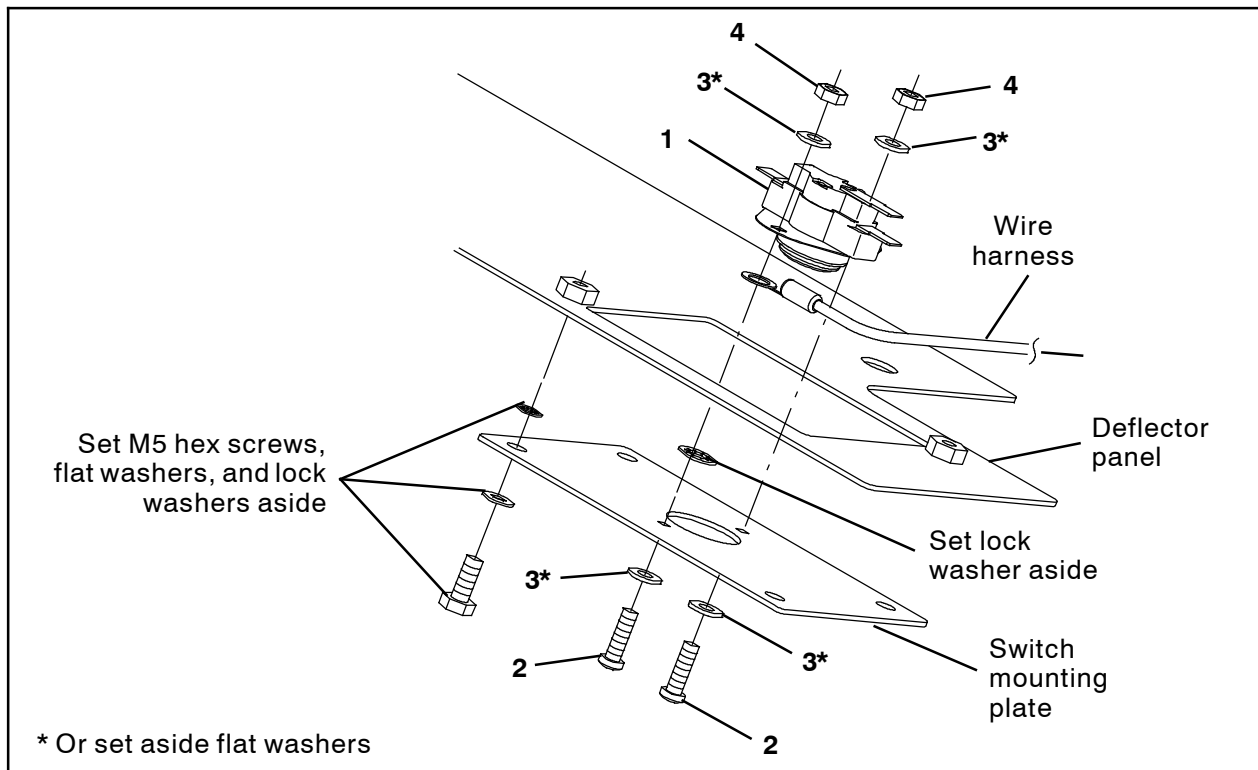
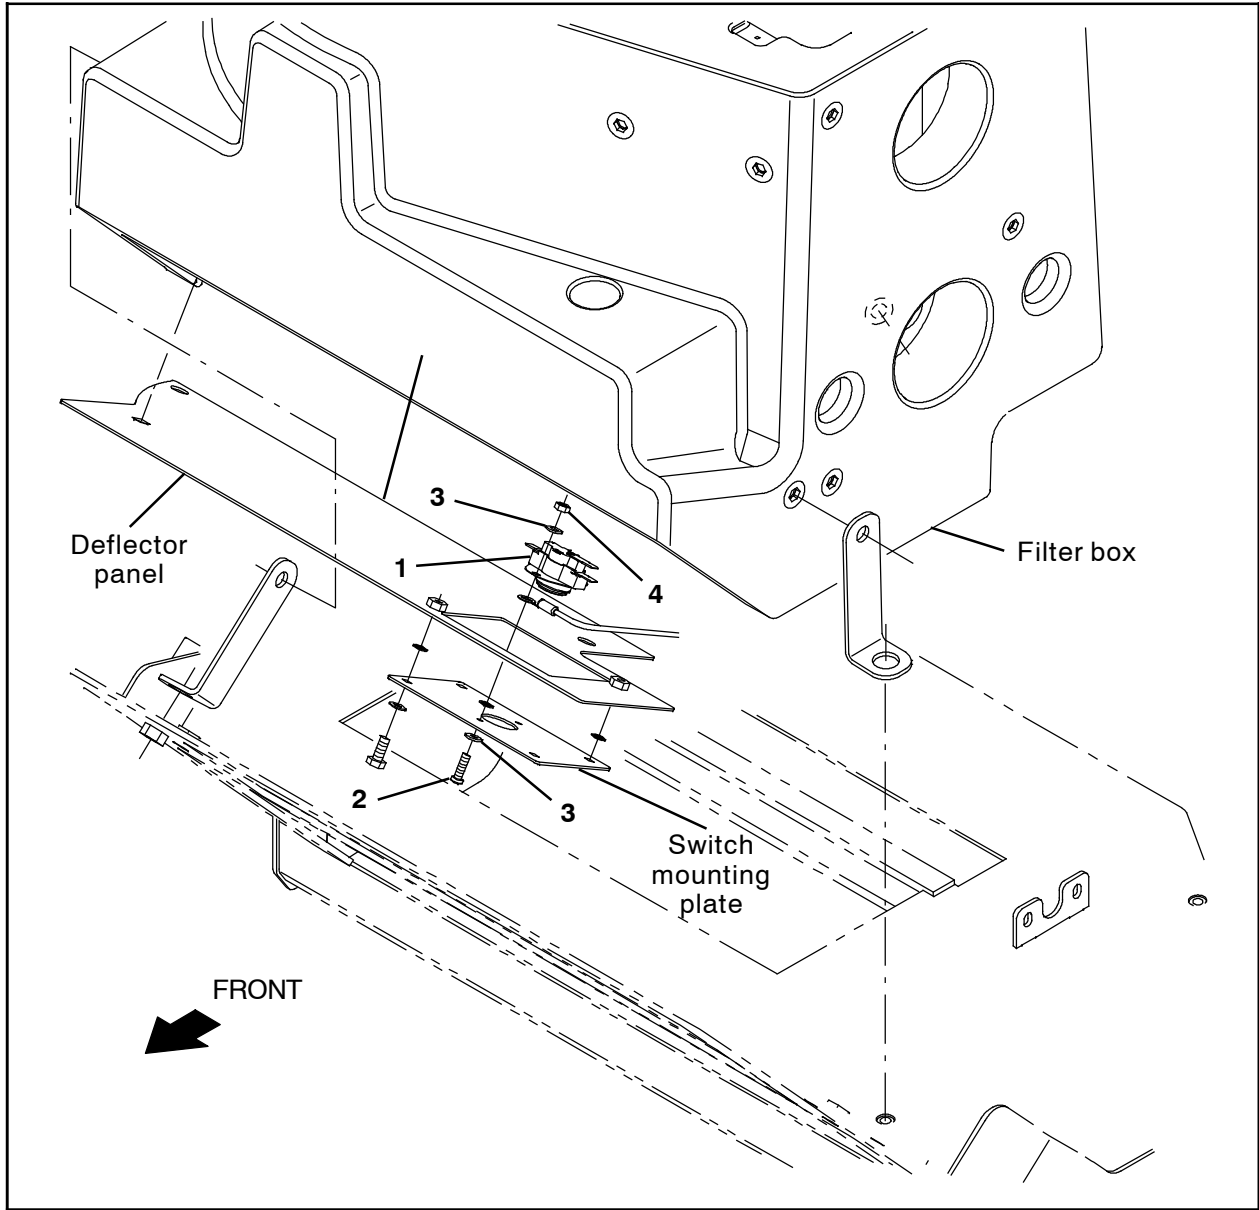

FIG. 2
FIG. 3
1. Remove the switch mounting plate from the hopper deflector plate. Set M5 hex screws, flat washers, and lock washers aside. (Fig. 2 / Fig. 3)
2. Remove the existing thermal switch from the switch mounting plate. Set the lock washer and two flat washers aside. Discard the thermal switch, both M4 pan screws, both M4 nuts, and the remaining flat washers. (Fig. 2)
3. Use two M4 pan screws (2), two flat washers (3), two saved flat washers, the lock washer, and two M4 hex nuts (4) to install the thermal switch (1) and wire harness onto the switch mounting plate. (Fig. 2)
4. Reinstall the switch mounting plate onto the hopper deflector plate. (Fig. 2 / Fig. 3)